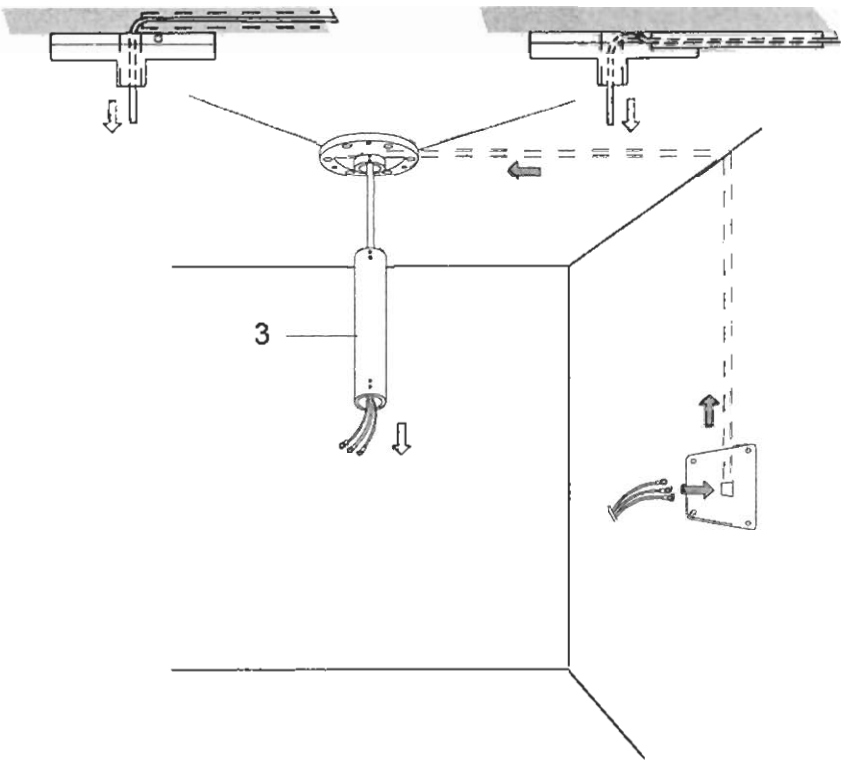

Figure 6-5
3. Screw ceiling suspension plate (1) to the ceiling by using the relevant screws (2).
4. Insert connection wires in the hole in the centre of the plate and drive them through the stand (3) (see Figure 6-5).